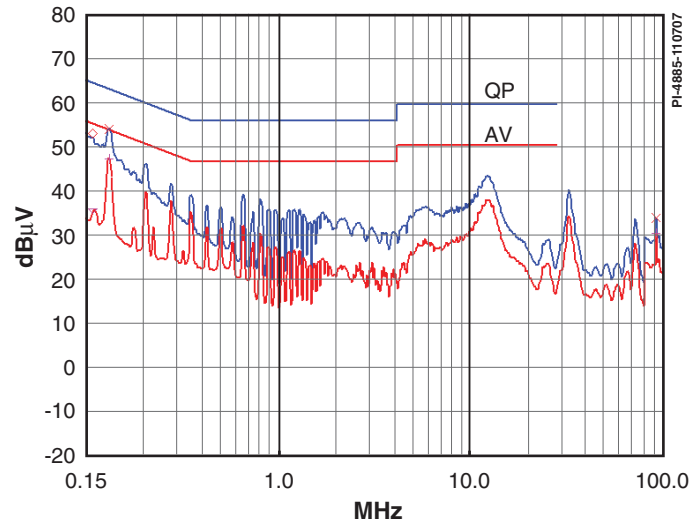

Figure 2. Conducted EMI at 230 VAC With Output Grounded (Worst Case).
- Integrated frequency jittering, together with a simple EMI filter, allows for CISPR-22/EN55022B conducted EMI compliance (see Figure 2)